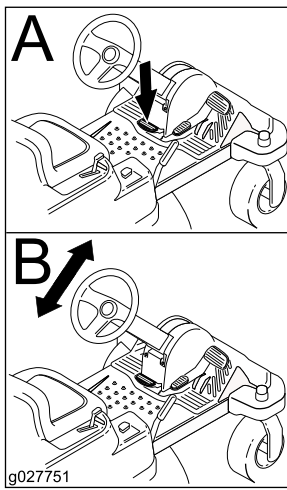

Figure 15
2. Position the steering wheel to the desired position (Figure 15).